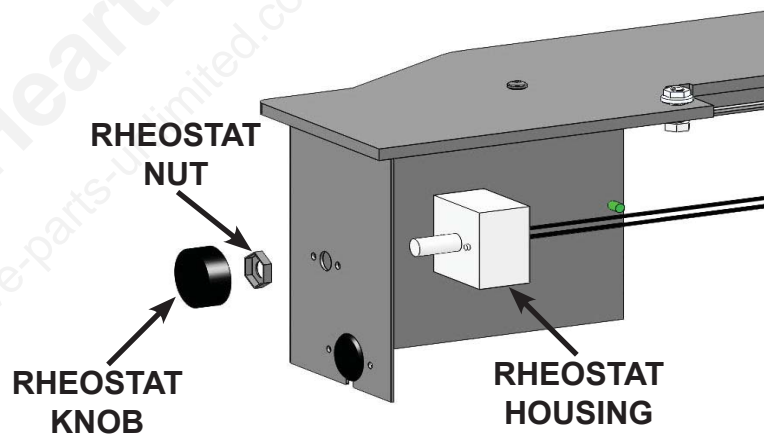

Fig. 7
2. Fasten rheostat housing from appliance and secure with rheostat nut, ensure rheostat pins sit in the alignment through holes. Install rheostat knob. (Fig. 7)